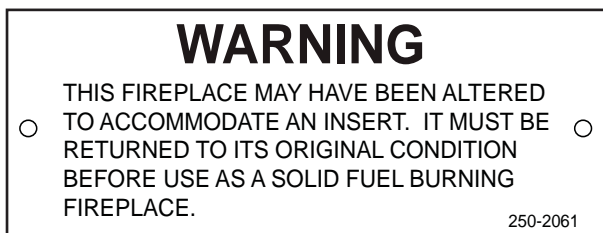

Figure 37.2
- The permanent metal warning label provided in the component pack must be attached to the back of the fireplace, with screws or nails, stating that the fireplace may have been altered to accommodate the insert, and must be returned to original condition for use as a conventional fireplace. **Figure 37.2.**